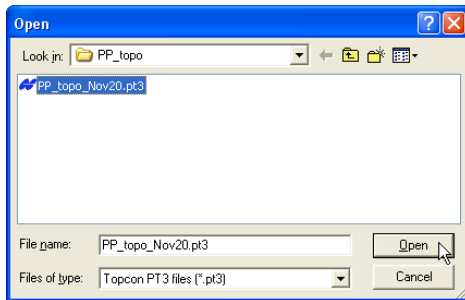

Figure 3-6. Open 3D Points File
2. On the **Open** dialog box, navigate to the location of the file, select the file type as Points (\*.pt3), select the desired file, and click **Open** (Figure 3-6).